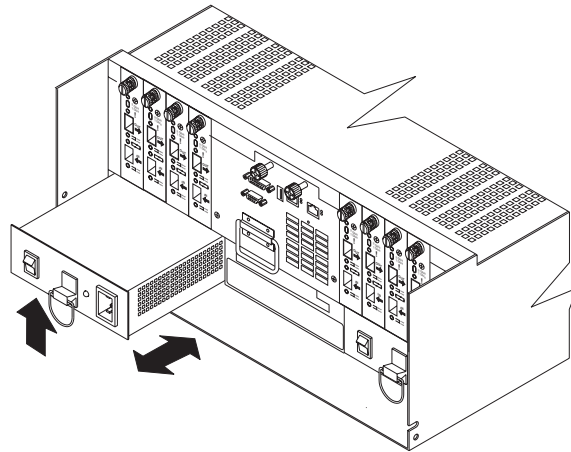

Figure 44. Removing and installing a power supply CRU
3. Using Figure 44 on page 52 as a guide, remove the failed power supply. Lift up and pull out on the pull handle to release the power supply; then, slide the unit
5. Install the new power supply, as shown in Figure 44. Using the pull handle, push the power supply into the slot until it locks into place.